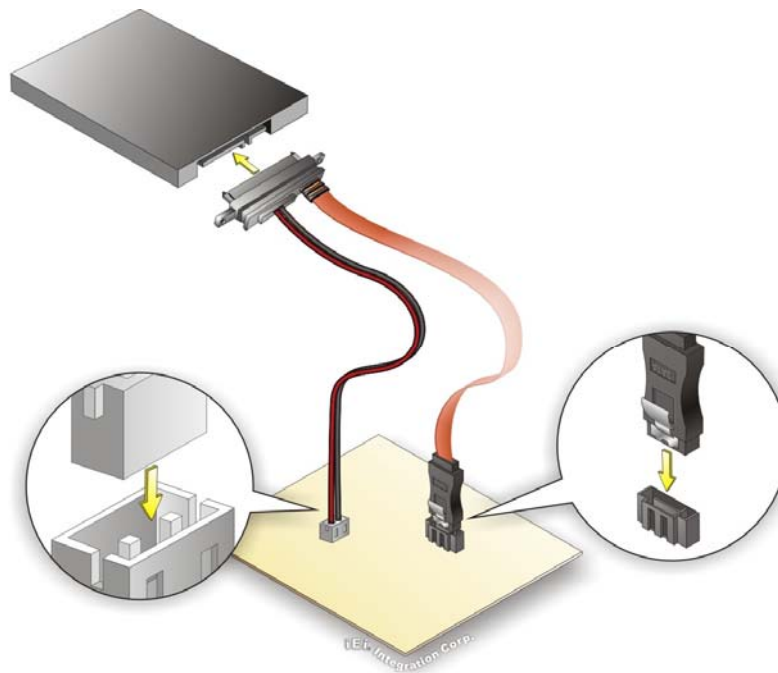

Figure 4-13: SATA Drive Cable Connection
Step 2: **Insert the cable connector.** Insert the cable connector into the on-board SATA drive connector and the SATA power connector. See **Figure 4-13**.
Step 3: **Connect the cable to the SATA disk.** Connect the connector on the other end of the cable to the connector at the back of the SATA drive. See **Figure 4-13**.